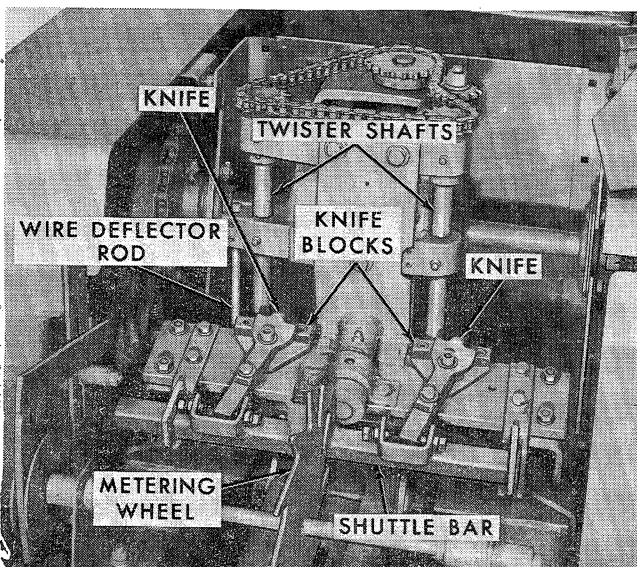
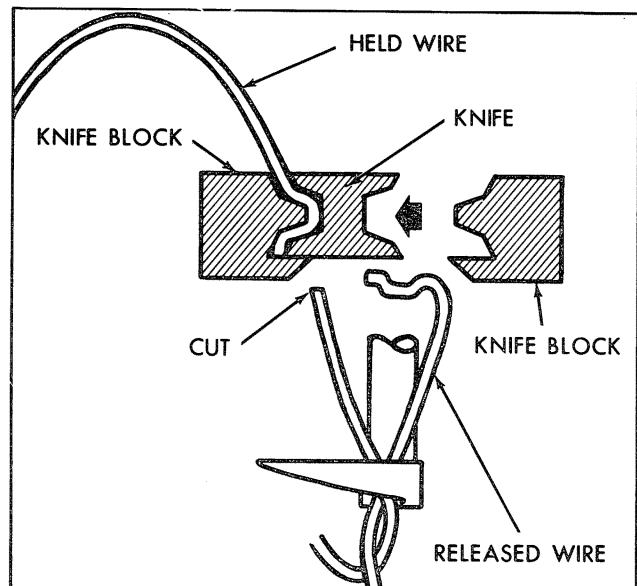
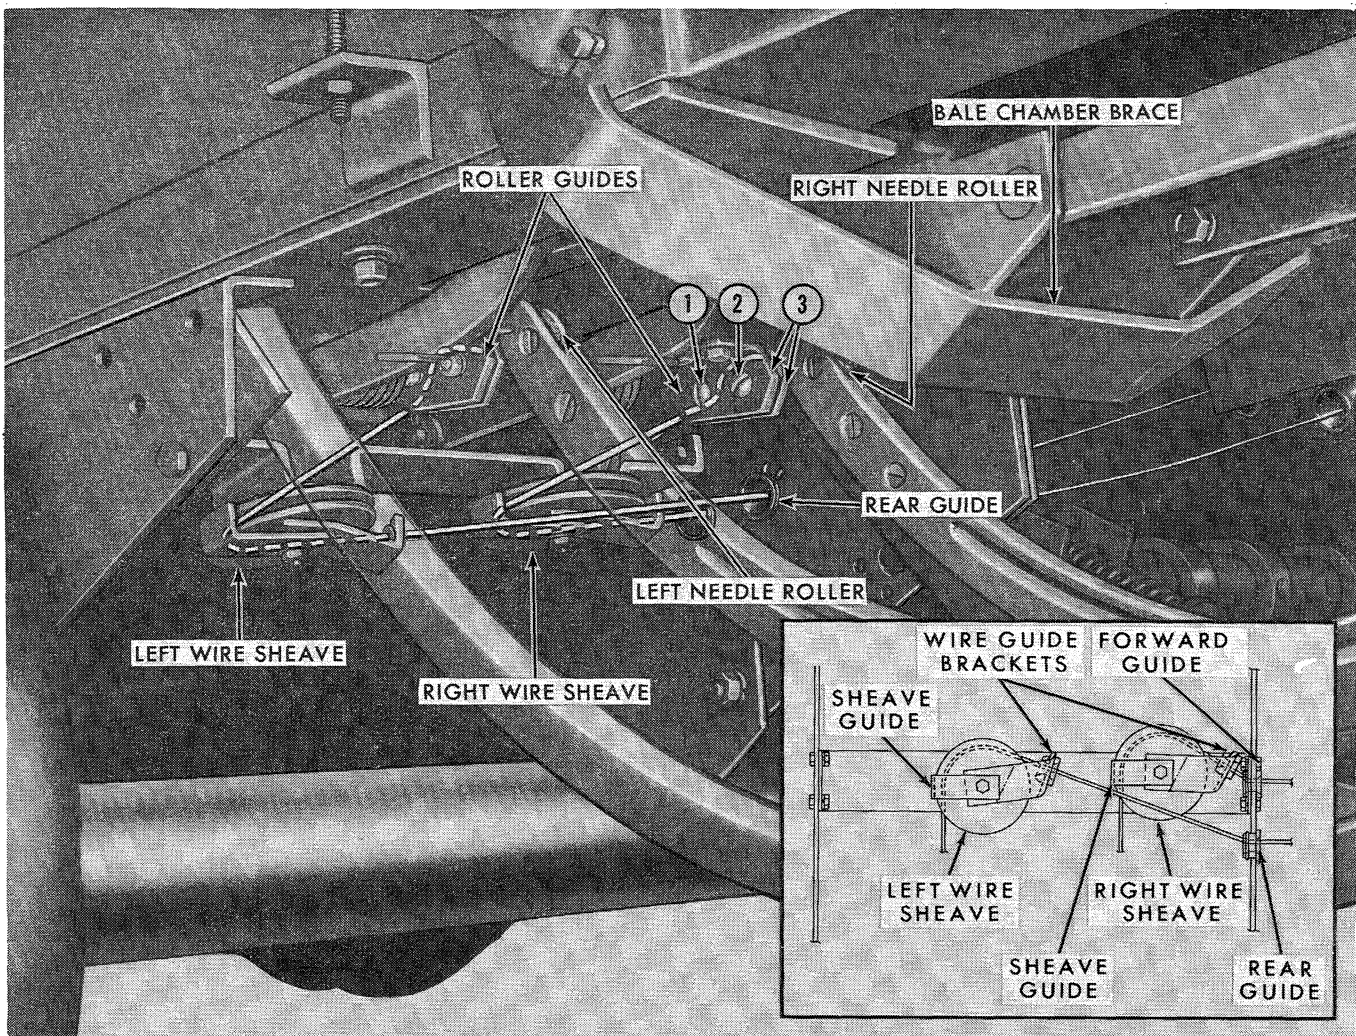

Figure 77
Figure 78
Figure 80
The twister assembly, Figure 77, is actuated at the completion of each bale, when the metering wheel trips the twister clutch. After the clutch is tripped, the needles move up and position the wires between the knives and the knife blocks. At this point, the twister begins to turn. After approximately 1-3/4 turns, the shuttle bar is actuated. This moves the knives laterally to the other sides of the knife blocks, releasing the held wires, Figure 78, and simultaneously cutting and crimping the wires placed in position by the needles.
By the time the held wires are released by the knives, the twister fingers have secured the wires and have begun the twisting process, Figure 78. The crimped wires remain solidly fixed between the knives and knife blocks. Throughout the twister cycle, the ends of the cut wires are held in place by the wire deflector rods, Figure 77. As soon as the twister shafts begin to turn, the needles drop into position for the next bale.
- a. Thread the wire extending from the rear guide [container (1) wire] through the guide in the left guide bracket and around the left wire sheave as shown in the Insert, Figure 80.
- b. Pull the wire up between the left roller guide brackets (3), beneath bolt (1), and over bolt (2), (illustrated on right-hand guide).
5. Check the wire guide brackets, Insert, Figure 80, to make certain they are positioned in line with their respective guides in the axle bracket. Also make certain that the sheave guides are positioned as close to the sheaves as possible without rubbing. Adjust if necessary.
8. Remove the cut wires from the bale chamber brace, Figure 80, and the twisters, Figure 77.
After checking the adjusting the needles, check the roller guides, Figure 80, on the underside of the bale chamber to determine if they align with the needle rollers. Adjust, if necessary, by loosening the roller guide mounting bolts and repositioning the roller guides as required. Then tighten the mounting bolts.
Check the wire guide brackets, Insert, Figure 80, to make certain they are positioned in line with their respective guides in the axle bracket. Also check the sheave guides to make certain that they are positioned as close to the sheaves as possible without rubbing.